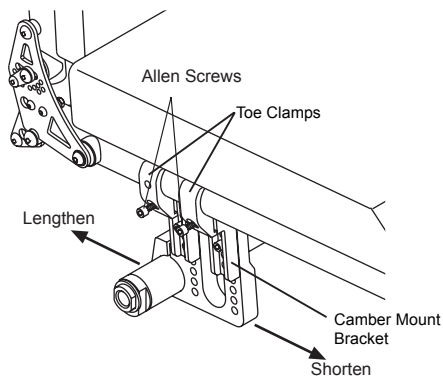

Figure 63
1. Loosen, but do not remove, the four (two on each side) Allen Screws that secure the toe clamps and the camber mount brackets to the frame. See Figure 63.